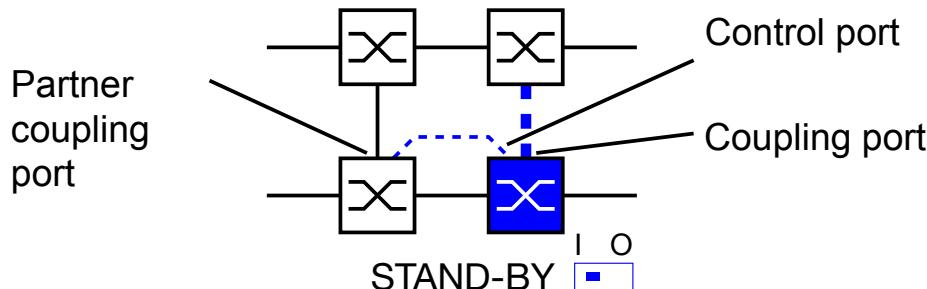

Figure 23: Two-Switch coupling with control line
- Select two-Switch redundant coupling with control line (see fig. 23).